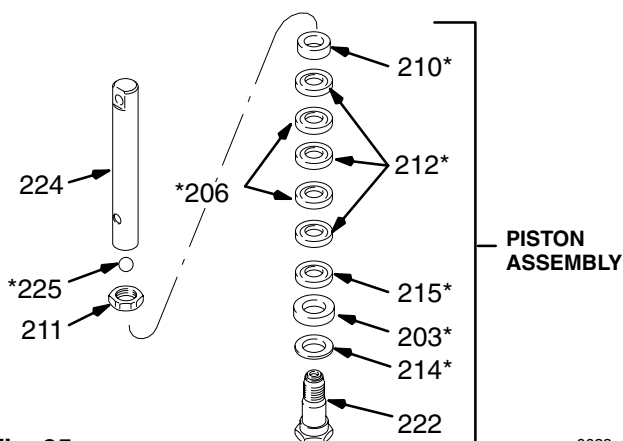

Fig. 25
7. Clamp the flats of the piston rod in a vise. Loosen the retaining nut (211). Unscrew the piston valve (222) from the rod. Remove all parts from the piston valve (222). See Fig. 25.
8. Remove and clean the sleeve (218). Use ONLY the special sleeve removal tool, P/N 222-586.
1. Check the outside of the piston rod (224) and the inside of the sleeve (218) for scoring or scratches. If these parts are damaged, new packings will not seal properly. Replace these parts if needed.
2. Stack the backup washer (214), seal (203*), female gland (215*), alternate packings (212*,206*), and then male gland (210*) onto the piston valve (222). See Fig. 25.
3. Tighten the packing retaining nut (211) against the piston valve (222) to 10.5 in-lb (1.24 N.m).